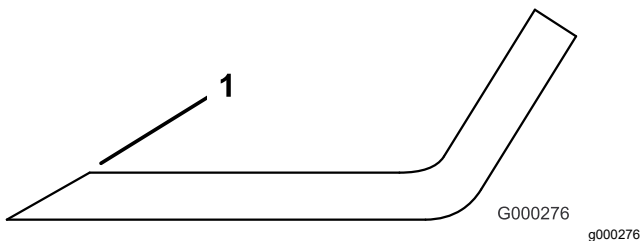

**Figure 98**
- Examine the cutting ends of the blade carefully, especially where the flat and curved parts of the blade meet (Figure 98).
**Note:** Because sand and abrasive material can wear away the metal that connects the flat and curved parts of the blade, check the blade before using the mower. If wear is noticed (Figure 98), replace the blade.